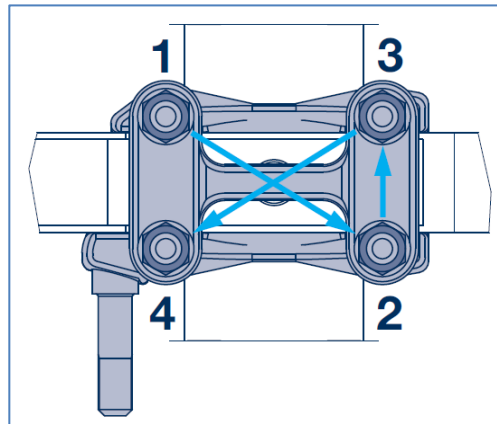

Figure 2
2. Control parallel position of spring seats and trailing arm towards axle beam and hereafter tighten self-locking nuts diagonally in a.m. sequence 1-2-3-4 (see Figure 2) Using a calibrated torque wrench tighten self-locking nuts diagonally in following steps to the tightening torque of 550 Nm: